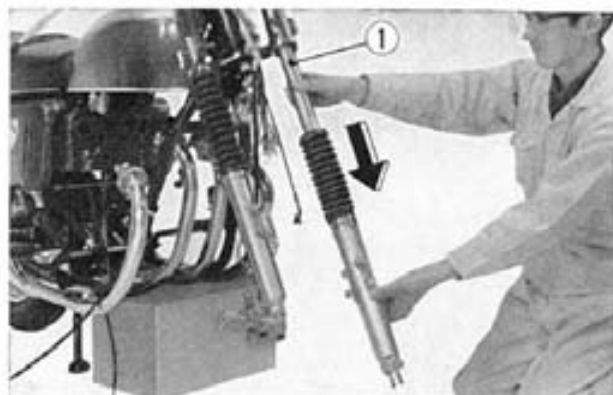

Fig. 11-12 ① Front fork
3. Loosen the 8×56 mm front fork pipe mounting bolts (located on the fork top bridge) and the 10×40 mm front fork pipe mounting bolts (located on the steering stem). Pull the front fork gentle out the bottom. (Fig. 11-12)